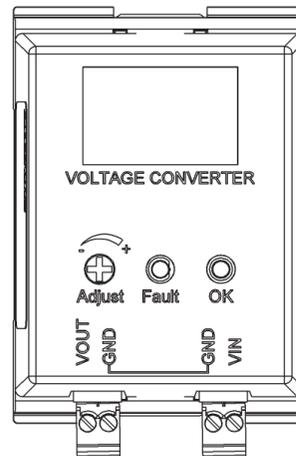

Figure 7: EZ-Mount with mounting tabs pushed in
The EZ Mount Base has mounting tabs that can be extended or pushed in. Figures 7 and 8 show the details.
- If showing, push the blue mounting tabs in as shown in Figure 7.